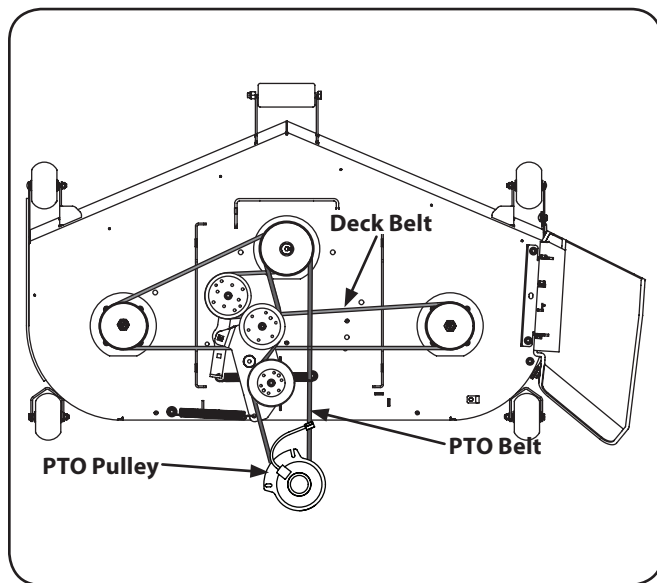

Figure 7-8
- Route the PTO belt as shown in Fig. 7-8. After routing the belt around the PTO pulley, use a $\frac{1}{2}$ " drive in the idler pulley bracket and turn towards the back of the tractor to finish routing the belt around the idler pulley.
- Install the new deck belt around the spindle pulleys as shown in Fig. 7-8 and reinstall the belt covers.